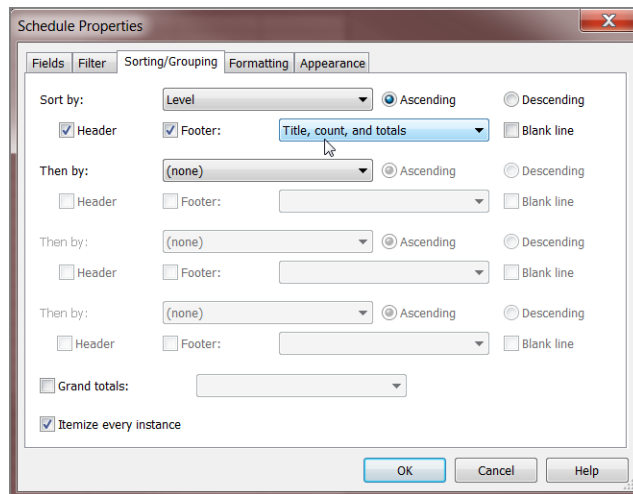

FIGURE 11.7: Sorting the schedule by level
9. Select Title, Count, And Totals from the Sort By drop-down list (see Figure 11.7).